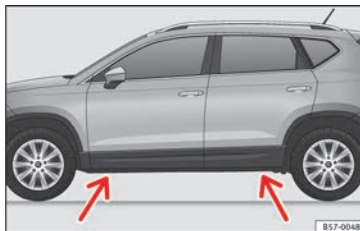

Fig. 72 Crossbar: marks.
- Find the support point on the strut (sunken area) closest to the wheel to be changed » **Fig. 72**.